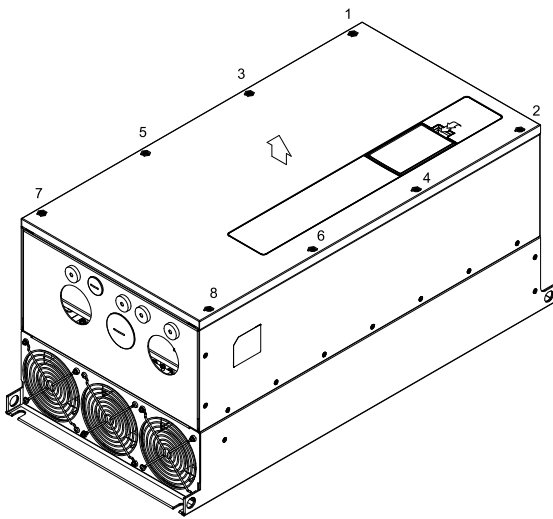

Figure 7-72
1. Press the hook in the top of digital keypad, and then rotate to remove the digital keypad. (Refer to Figure 7-72)